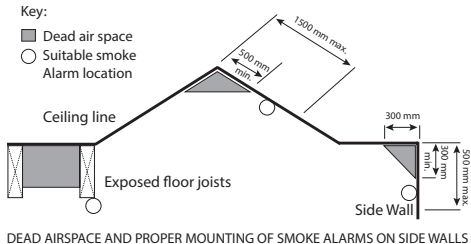

Fig.4
If this height is less than 500mm, the ceiling is regarded as being flat (see Figure 4).
- The top of the detection element is between 300mm and 500mm below the ceiling (see Figure 4).